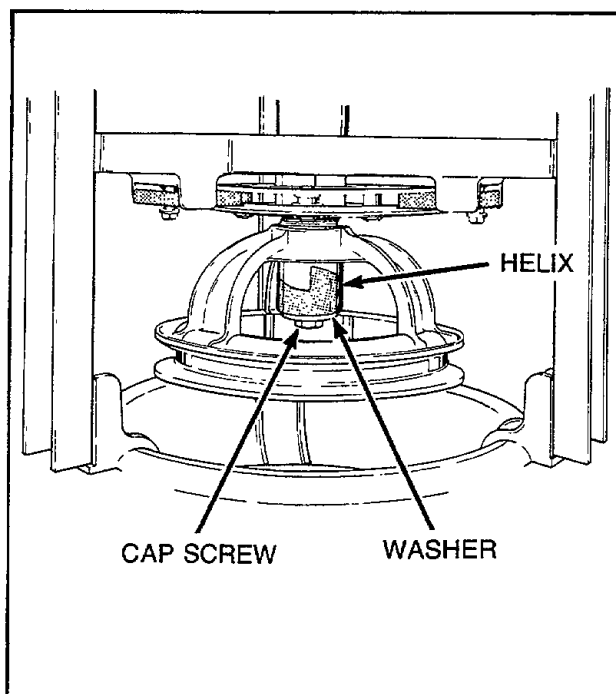

Figure 27
- k. Remove cap screw, washer and helix from bottom of input shaft of transmission assembly, *Figure 27*.
- n. Remove cap screw, washer and helix holding drive pulley to transmission shaft, *Figure 27*.